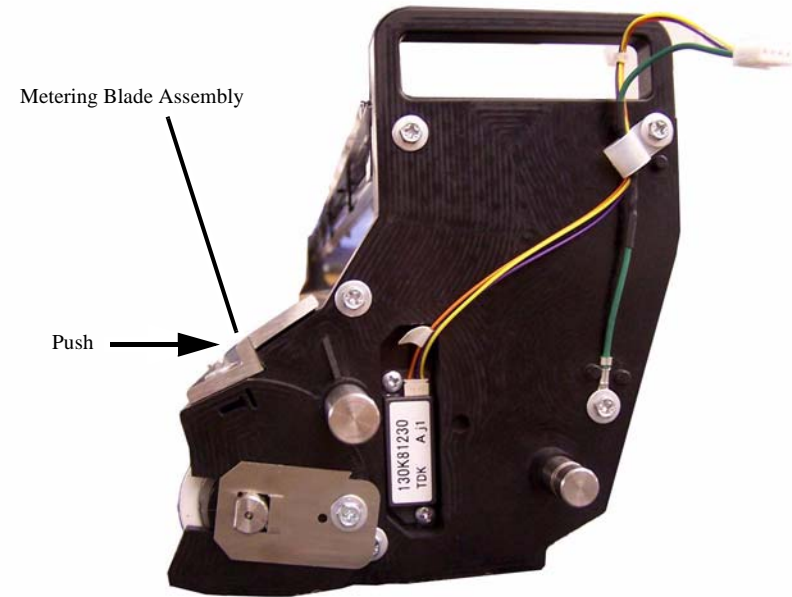

Figure 4 Securing the Metering Blade Assembly
NOTE: Before installing the screws (2), firmly push the Metering Blade Assembly in the direction shown by the arrow to secure it (Figure 4).